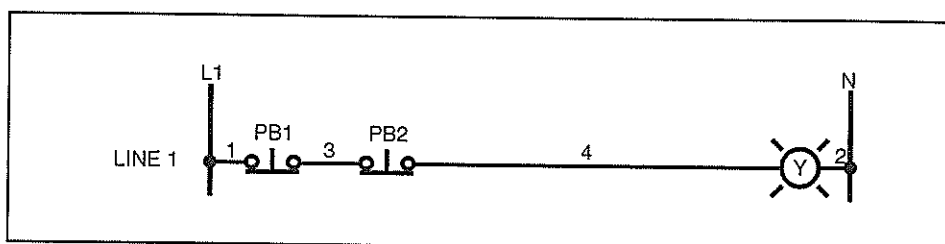

Figure 37. The NOR Logic Circuit for Skill 9
- 2. Connect the circuit shown in the ladder diagram in figure 37.